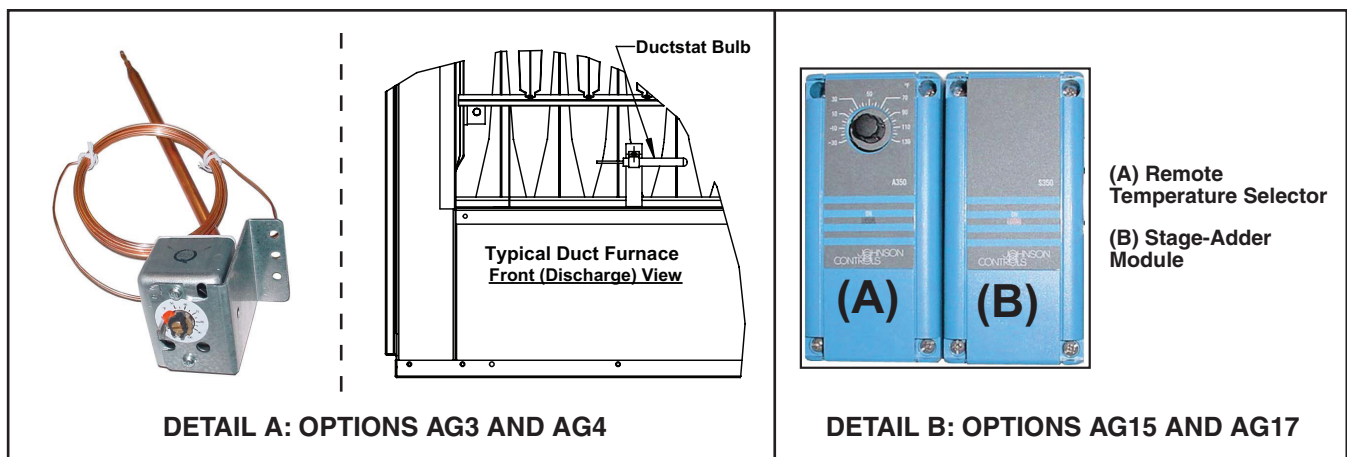

Figure 14. Ductstat Options
- Depending on the option selection, the factory-installed sensor is either field-connected by capillary tubing to the unit-mounted ductstat (see Figure 14, DETAIL A), which is factory-set at 70°F, or electrically-connected to a remote field-installed electronic temperature selector (see Figure 14, DETAIL B).
The unit-mounted ductstat shown in Figure 14, DETAIL A has an adjustable range between 0°F and 100°F with a fixed differential of 3°F. Due to different CFM settings and outside air temperatures, the average downstream outlet temperature may not match the ductstat setting exactly. After the installation is complete, adjust the setpoint of the ductstat to achieve the desired average outlet air temperature.
- The field-installed sensing probe is field-wired to the remote temperature selector shown in Figure 14, DETAIL B, which has a temperature operating range to 130°F. The remote modules and sensing probe are shipped separately for field-installation. Follow the wiring diagram provided with the unit and the manufacturer's instructions for wiring and installation. Depending on the staging provided, there will be one module for selecting temperature and either one or two stage-adder modules.